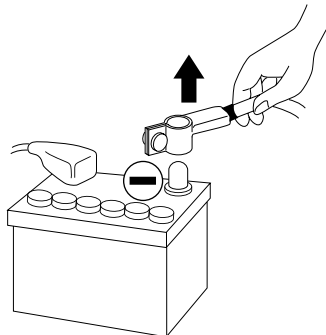

fig. 1
- **Before beginning installation, disconnect the negative terminal of the battery to avoid any risk of injury, fire or material damage. (fig. 1)**
- 2 - Disconnect the negative terminal of the battery before beginning the installation. *(fig.1)*
Before beginning the connection phase, remove the negative (-) terminal of the battery of the vehicle. (*fig.1*)